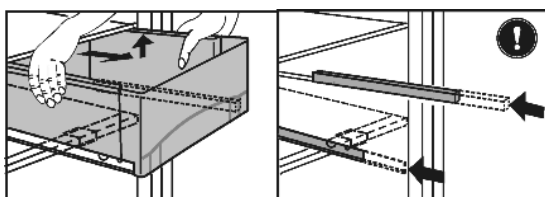

Fig. 33
- ▶ To insert drawer cover *Fig. 33 (2)*: insert the bars of the drawer cover into the rear holders from below and snap into the holder at the front.